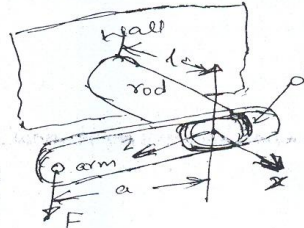

Fig.Q1(b)
- b. Determine the factor of safety for the bracket rod shown in Fig.Q1(b) based on both distortion energy theory and maximum shear stress theory and compare them. The material is 2024 - T₄ aluminium with a yield strength of 330 MPa. The rod length of l is 15 cm and arm $a = 20$ cm. The rod outside diameter $d = 3.5$ cm, and load $F = 4500$ N. Assume the load is static and assembly is at room temperature. Neglect shear due to transverse loading.